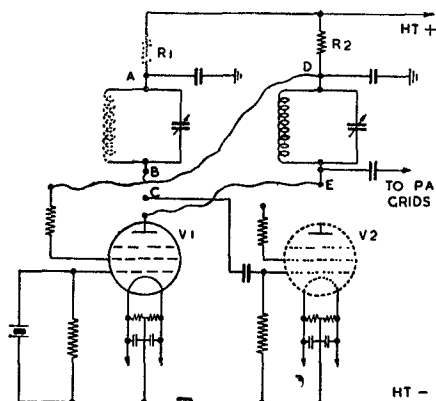

FIG. 102
- (ii) *Crystal fundamental operation.* 1.5–3 Mc/s. (See fig. 102.) Assuming that transmitter is already set up for normal doubler operation :—